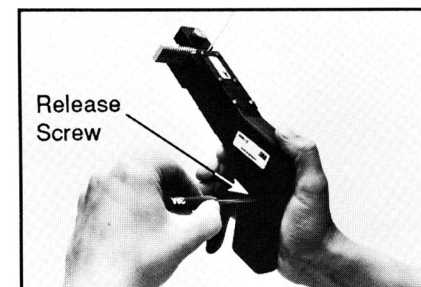

Figure 5
5. The **release screw** on the side of the pistol grip handle can be turned counter clockwise with a screw driver to release any jam. This will release the internal indexing mechanism and reset the pistol grip and head. See Figure 5.